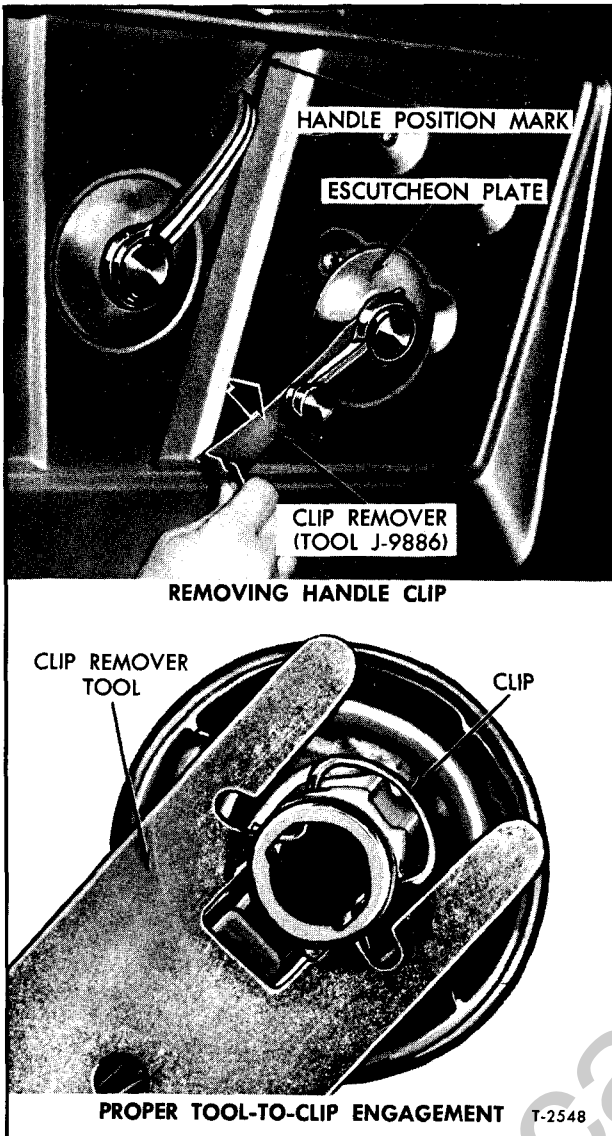

Figure 19—Door Inside Handle Replacement
NOTE: If removing door lock inside handle, the handle position should be marked in relation to door panel to assure that handle is installed later at the same operating angle. See figure 19 which shows proper handle position.
1. Insert tool (J-9886) between handle flange and escutcheon plate as shown in figure 19.
NOTE: The lower view in figure 19 shows how the tool engages the clip at underside of handle when removing.
2. Insert lock spring in handle grooves from direction shown in figure 19.